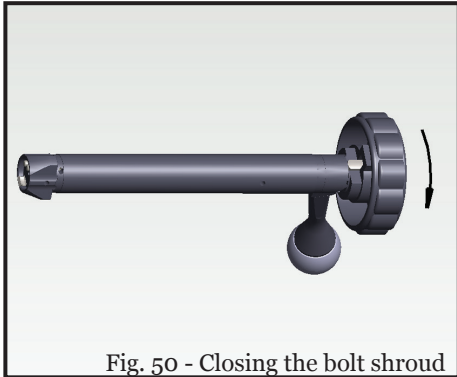

Fig. 50 - Closing the bolt shroud
4. While keeping the bolt shroud pushed against the bolt body, turn the bolt shroud counter-clockwise until the rounded front surface of the cocking piece clicks in to the resting groove on the rear of the bolt body (Fig. 50). The bolt is now cocked and can be slid back into the receiver.